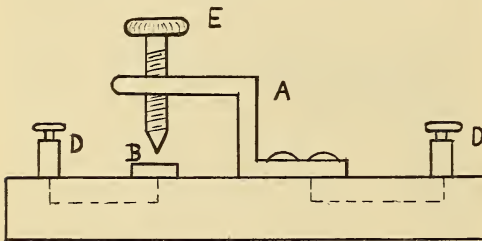

FIG. 1. SIMPLE WIRELESS DETECTOR.
or other type which it is necessary to tap to disarrange the mass when acted on by the wave, almost any type will answer that is used in connection with a telephone receiver. A carborundum or silicon detector will answer for wireless telephony. A very simple plan of the construction is shown in Fig. 1. (A) represents a metal standard with thumb screw (E), (B) a metal button and (DD) binding posts. Carborundum or silicon crystals are placed on the metal button (B) and the thumb screw (E) run down until the point touches the crystals. The connections are the same as made for the electrolytic detector and the same rules are observed in adjusting.